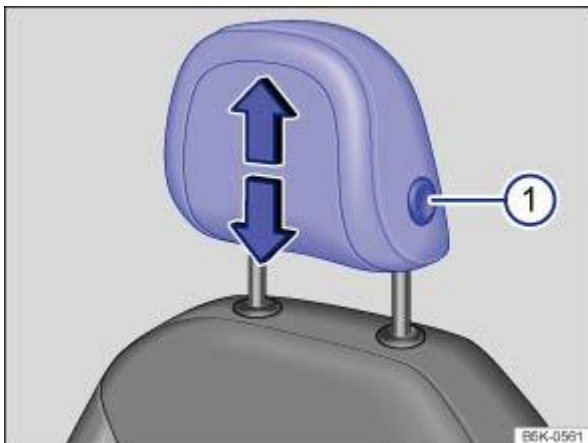
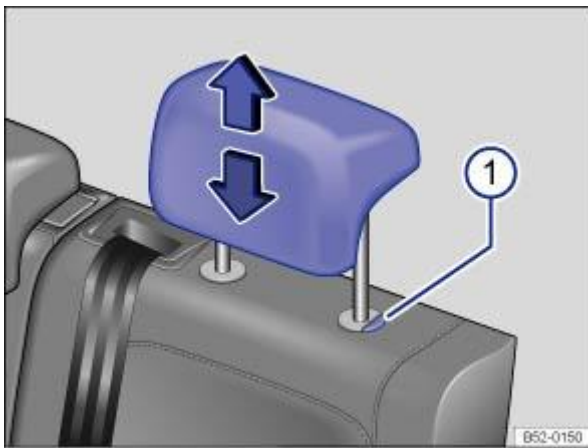

Fig. 72 Front head restraint: adjusting.
Fig. 73 Rear head restraint: adjusting.
Press the button ⇒ Fig. 72 ① or ⇒ Fig. 73 ① if necessary and slide the head restraint up or down in the direction of the arrow ⇒  .